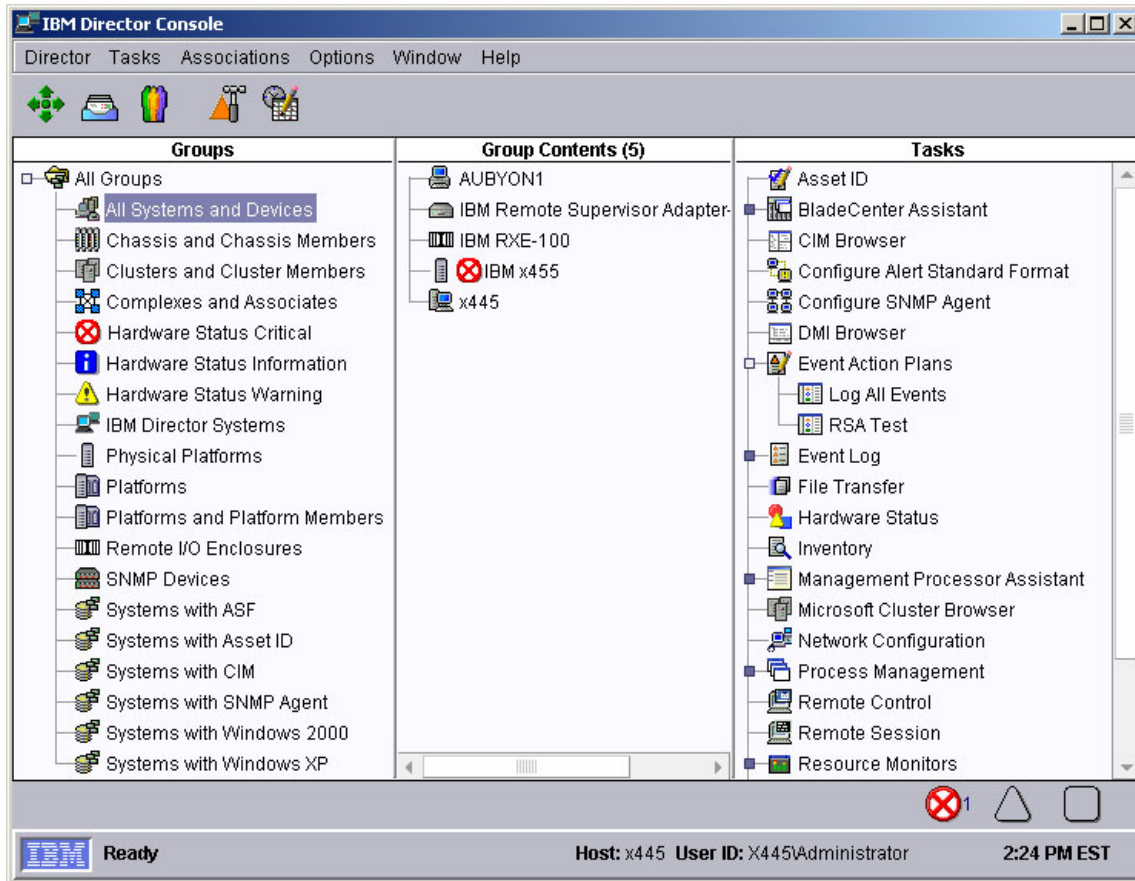

Figure 5-10 Completed configuration
13. In the IBM Director Console, click and drag your test event to your IBM Director Server system in the middle pane. See Figure 5-10 on page 195 for how your configuration should look.